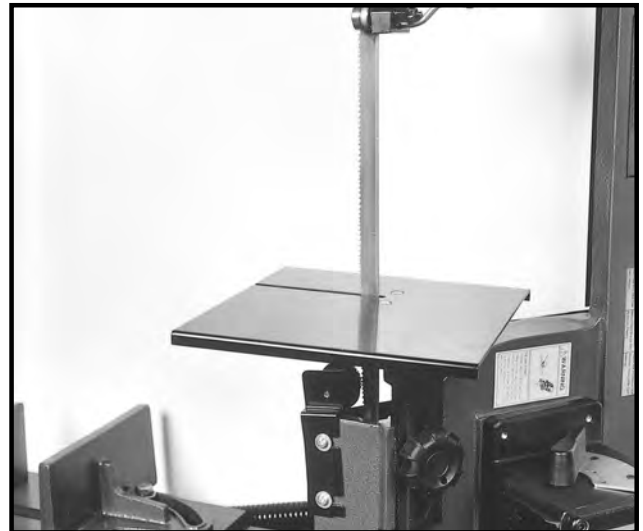

Fig. 18
4. Guide the blade through the slot in the table and fasten with two screws. See Fig. 18.